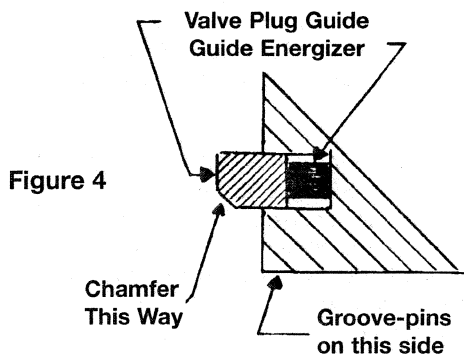
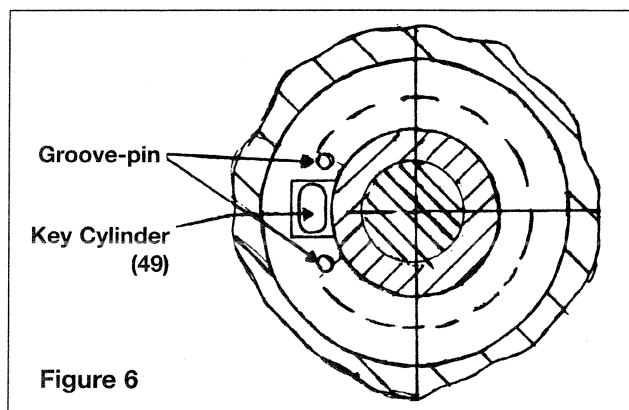

Figure 4
Figure 6
plug guide (34) (Teflon) into groove in bore of adjusting sleeve (33). Chamfer on guide to face out, ends should butt against the two Groove-pins. (See Fig. 4 and Fig. 6)
3. Insert temperature adjusting sleeve assembly (33) into yoke (36) with Teflon guide (34) facing out and hole in side of sleeve lining up with yoke window.